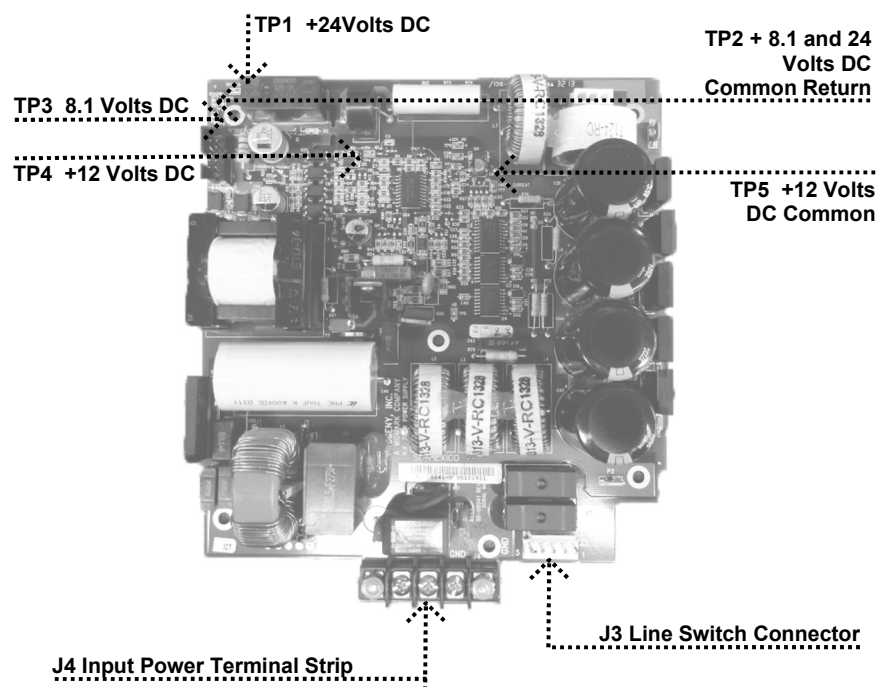

Figure 54
1. On the Power Supply Board 30-08041, check for the presence of 100 to 230 volts AC at J4, the Input Power Terminal Strip, as shown in Figure 54. If power is absent, check that the Preva is connected to line power.
2. On the Power Supply Board 30-08041, measure incoming power at J3, the Line Switch Connector, as shown in Figure 54. Positions 2 and 4 carry the line voltage before the Line Switch, and positions 1 and 3 carry the line voltage after the Line Switch. Voltage at the input side of the switch, but not at the output, requires replacement of the Line Switch E1-19000.
6. On the Power Supply Board, use TP2, as a common test point, and check TP1 +24 volts DC and TP3 8.1 volts DC, as shown in Figure 54. Then use TP5 as the common return to check TP4 for the presence of +12 volts DC. Should any of these voltages not be present, replace the Power Supply Board. If each voltage is present, inspect the condition of the ribbon cable between the Power Supply Board and the Logic Board. If the cable is undamaged and seated properly, replace the Logic Board.